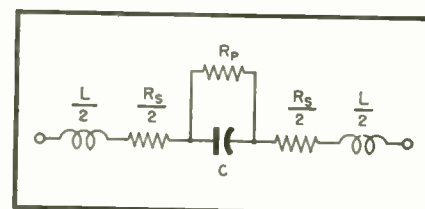

Fig. 3. Capacitor equivalent circuit
In measuring insulation resistance, d-c potentials of 100 to 500 volts should be employed and the electrification period prior to reading should not exceed two minutes. Ambient temperature will greatly influence the results which should be corrected to 25°C. according to the conversion chart of Fig. 3.
1. *Life Expectancy:* For a given operating voltage, the life expectancy decreases sharply with increasing temperature. The principal reason for this is the rapid decrease in the insulation resistance as the temperature is increased, which effect was shown previously in Fig. 3. Since the dielectric is not homogeneous, the current leakage may be concentrated in a limited number of paths through the material. These leakage currents, although small in magnitude, may be large compared to the area of the paths and thereby produce local heating. As the insulation resistance decreases, the leakage currents and local heating increase, leading to deterioration of the dielectric and ultimate breakdown.